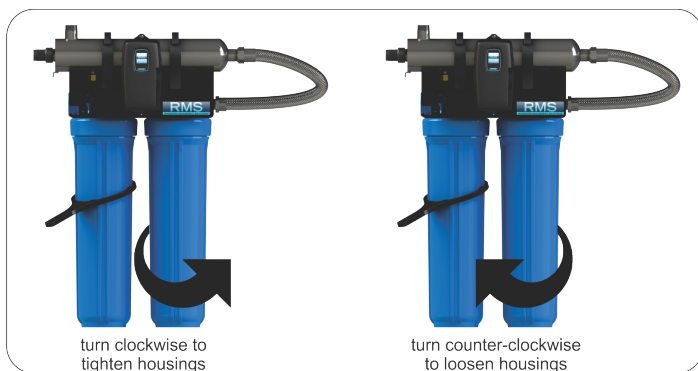

Figure 5. Cartridge Removal
Step 8: Install the filter cartridges in their appropriate housings. For the RMS branded products, please refer to the RMS Rack-Mount UV System Specification chart. **PLEASE NOTE:** This chart indicates the correct cartridge position for the default "left-hand" orientation with the water inlet located on the left side of the rack system. If the orientation was switched, the cartridge placement must also be switched. Once the cartridges are in place, use the supplied filter wrench to "snug" the filter housing onto the filter head (See Figure 5).